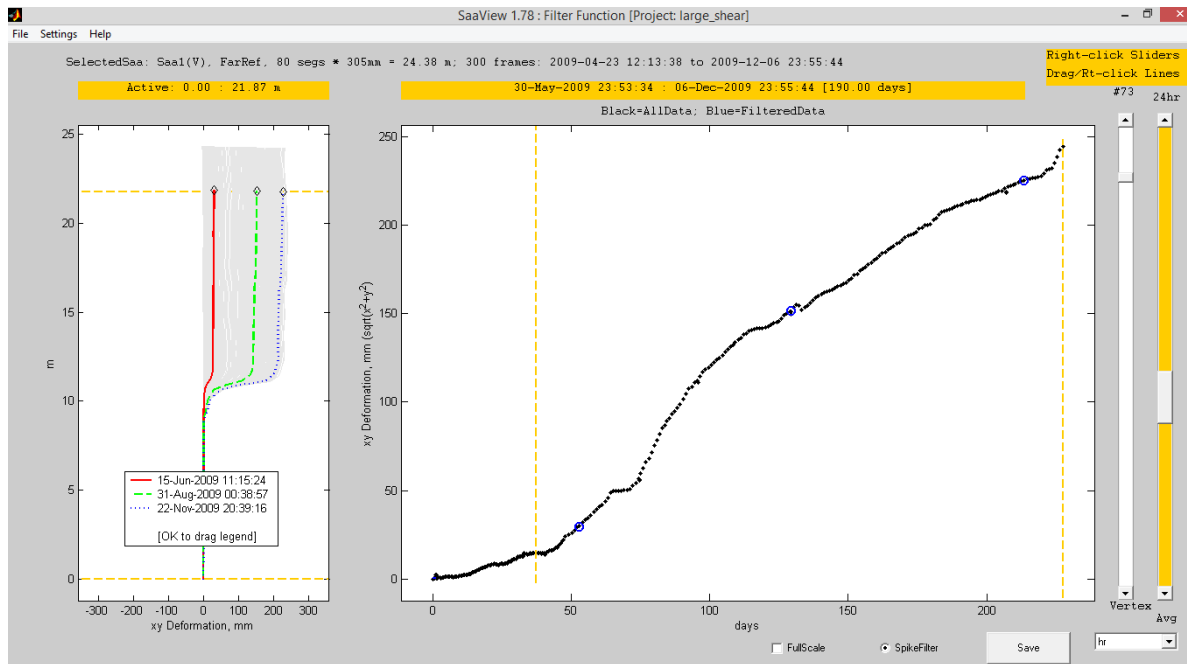

Figure 7.21: Two points selected for viewing, and the legend is movable (Project: large_shear).
- Passes only the selected points to the left graph (useful for selecting just a few points). As seen in **Figure 7.21**, where two data points have been selected and show as a light blue and a red line in the left graph.